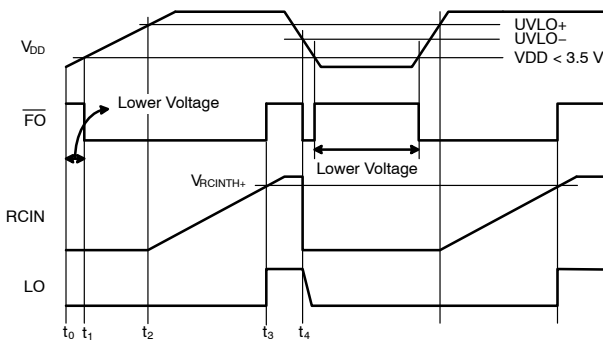

**Figure 37. Internal Dead-Time Definitions**
6. MDT is defined as  $|DT1 - DT2|$  referenced to Figure 37.
Dead time is automatically inserted whenever the dead time of the external two input signals (between HINx and LINx signals) is shorter than internal fixed dead times (DT1 and DT2). Otherwise, external dead times larger than internal dead times are not modified by the gate driver and internal dead-time waveform definition is shown in Figure 37.